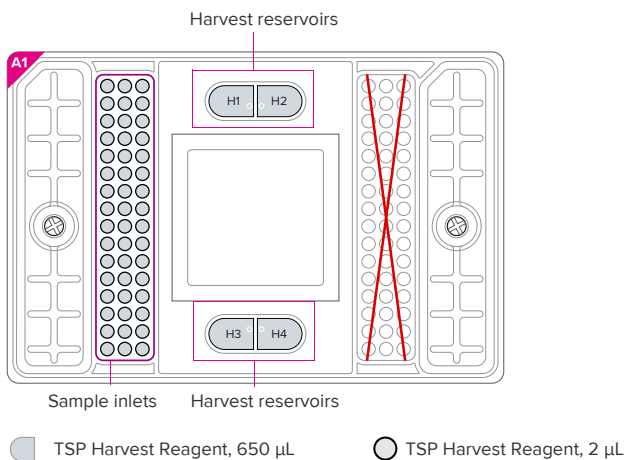

Figure 6. Pipetting map for harvesting the IFC
- 2 Remove the remaining fluids from the harvest reservoirs H1–H4 (see Figure 6)
- 3 Pipet 650 µL of fresh TSP Harvest Reagent into the harvest reservoirs H1–H4 (see Figure 6).
- 4 Pipet 2 µL of TSP Harvest Reagent into each of the sample inlets on the IFC (see Figure 6).